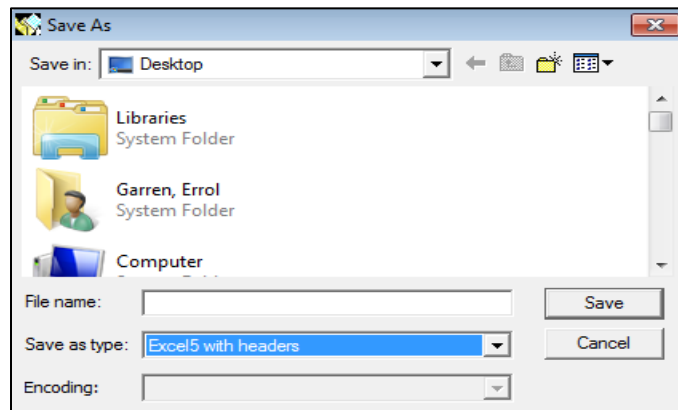

Figure 14-21: Save As Excel5 with Headers
- b. In the Save as type field, click the drop-down list. Select "Excel 5 with headers" (Figure 14-21).